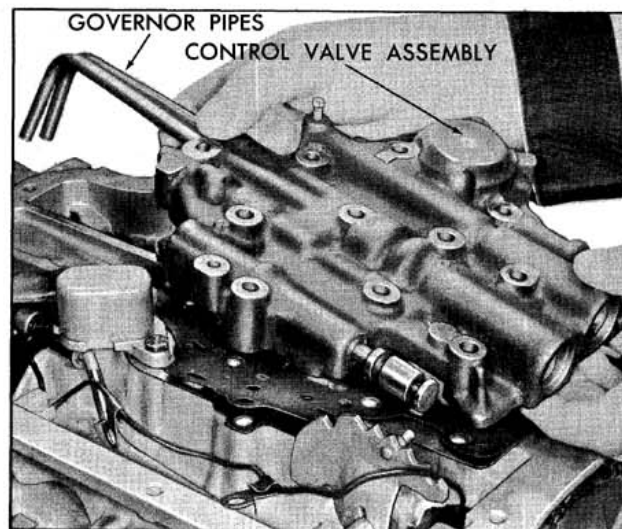

Fig. 6-36 Removing Control Valve Assembly
2. Remove the control valve body assembly and governor pipes. (Fig. 6-36)